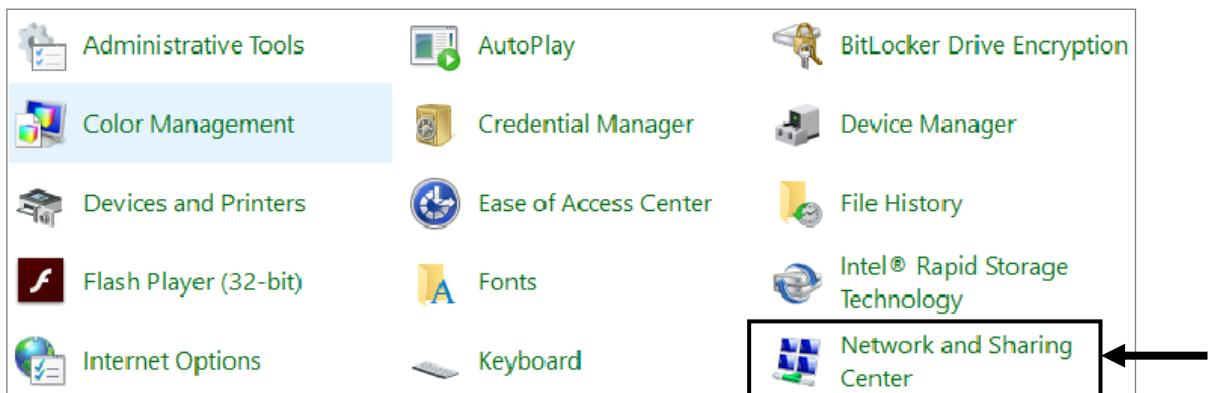

Fig 89. Select “Network and Sharing Center”
2. Make sure your network adapter settings are setup to communicate with the BMS Gateway. To do this, open the “Control Panel” on the computer and select “Network and Sharing Center” (Fig 89).